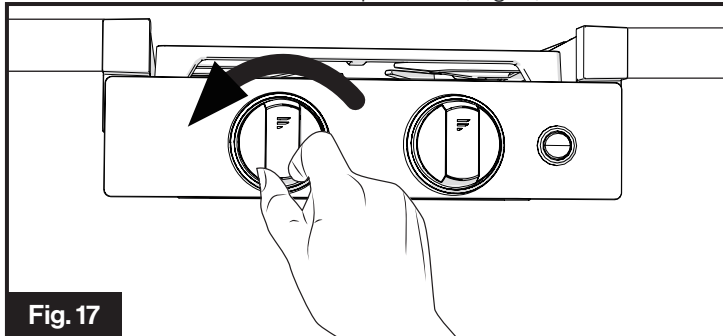

Fig. 17
2. Push and turn the appropriate burner control knob counterclockwise to the  position. (Fig.17)